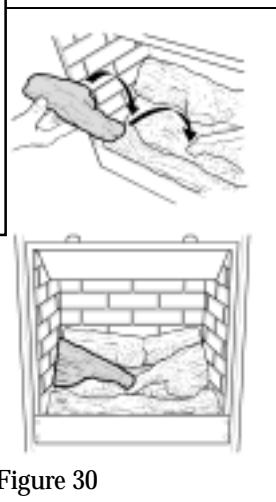

Figure 30
5. Place the left side log on base log at the left side. Locate its nose tip behind the nose of the right side log. ***It is important that the narrow nose does not drop down to touch the burner.*** See figure 30.